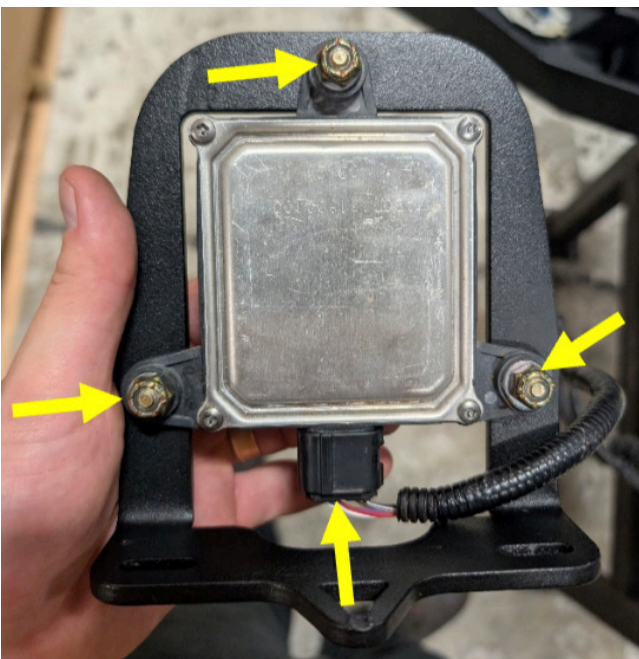

Figure 12
12. Using three (3) $\frac{1}{4}$ " bolts, $\frac{1}{4}$ " nuts and six (6) flat washers [50494-HW], install blind spot monitoring sensors (BSM) onto the mounting brackets [23471]. Insert plug from Step 11 into the BSM sensors before installing brackets into bumper shell. (Figure 12)